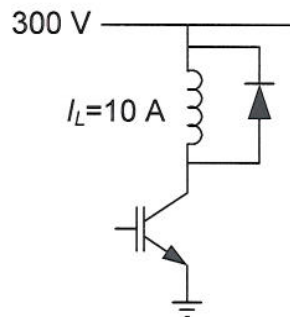

Figure 2 IGBT switching an inductive load
2. Consider the circuit of Figure 2, an IGBT switching an inductive load: